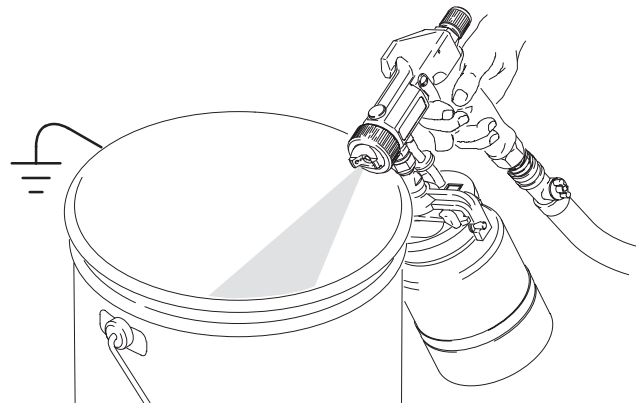

Fig. 15
6. Point gun down into and ground against container and flush until solvent runs clean. See Fig. 15.